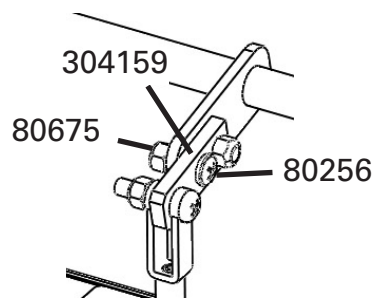

Figure 5
2. Install the 1/4"-20 screws (80256) into the two holes, alternating the orientation of the screws as shown in Figure 5. Secure with the 1/4"-20 locknuts (80675).